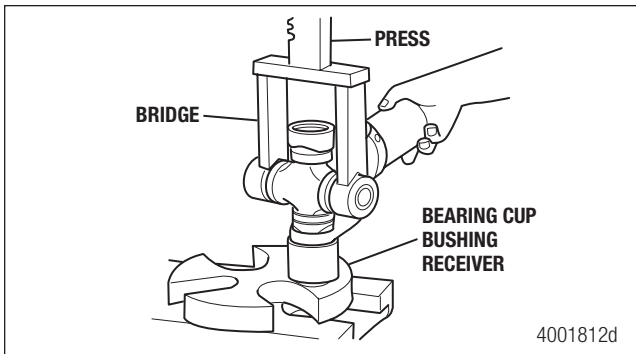
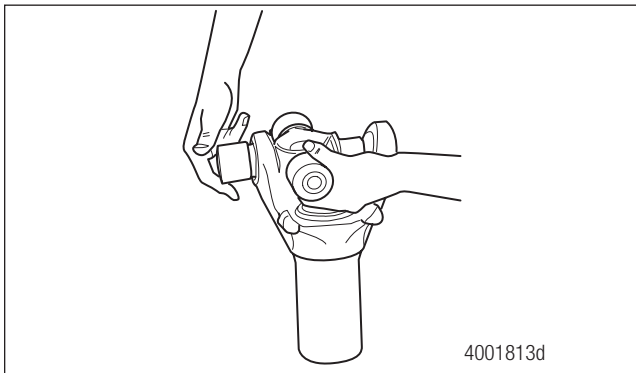

Figure 9.3
Figure 9.4
1. Place the universal joint in a suitable press bridge and bearing cup bushing receiver. Figure 9.3.
2. Press DOWN until the first round bushing loosens. Figure 9.3. Remove the round bushing. Figure 9.4.